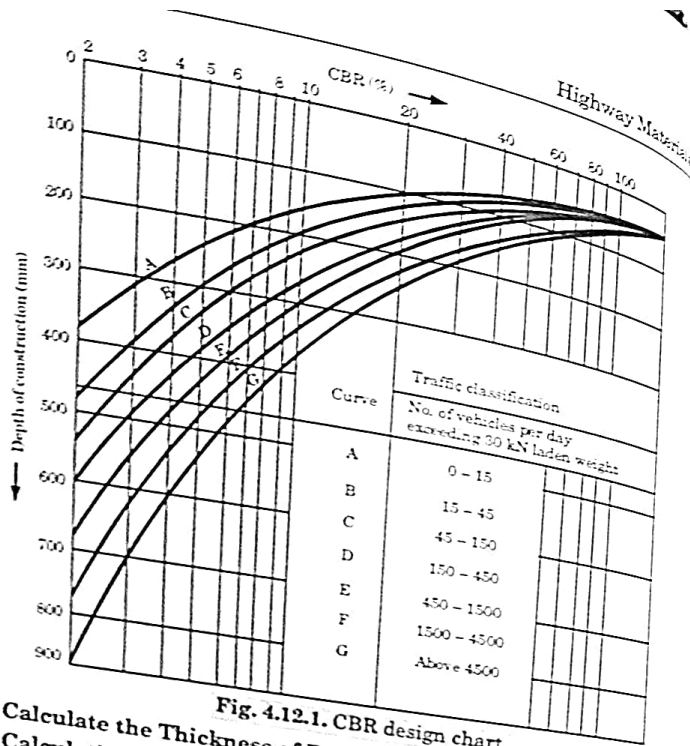

Fig. 4.12.1. CBR design chart.
4. IRC adopted CBR design chart is as shown in Fig. 4.12.1. There are seven curves from A to G for different volumes of traffic to be carried by the pavement as shown in CBR design chart Fig. 4.12.1.
1. Calculation of Total Thickness (T) :
- In this step, firstly for the given value of traffic intensity select appropriate curve from classification table which is shown in Fig. 4.12.1.
- Now, from the given CBR value of subgrade soil read the total thickness (T) with respect to selected curve.